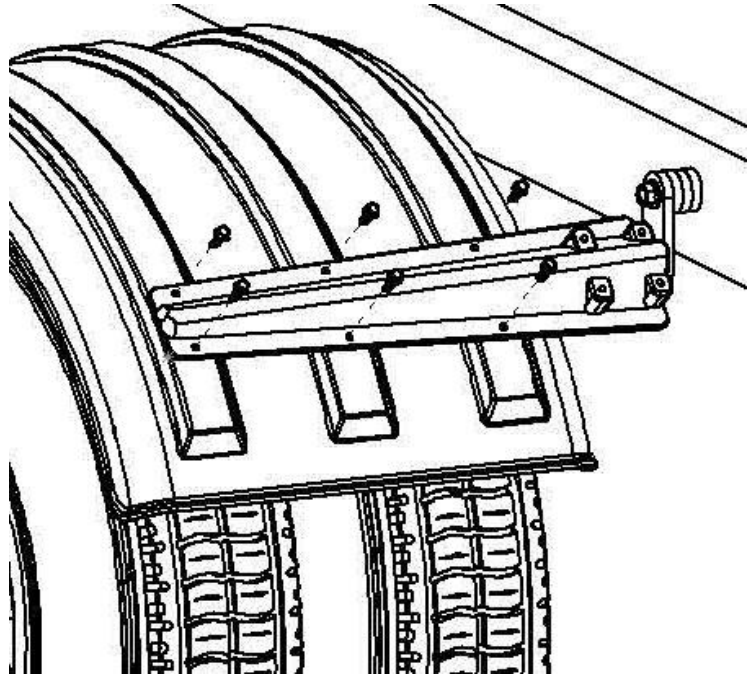

Figure 13
- Make sure the fenders are square and aligned (Figure 13). Twists or bows in the fender will fatigue the material over time.